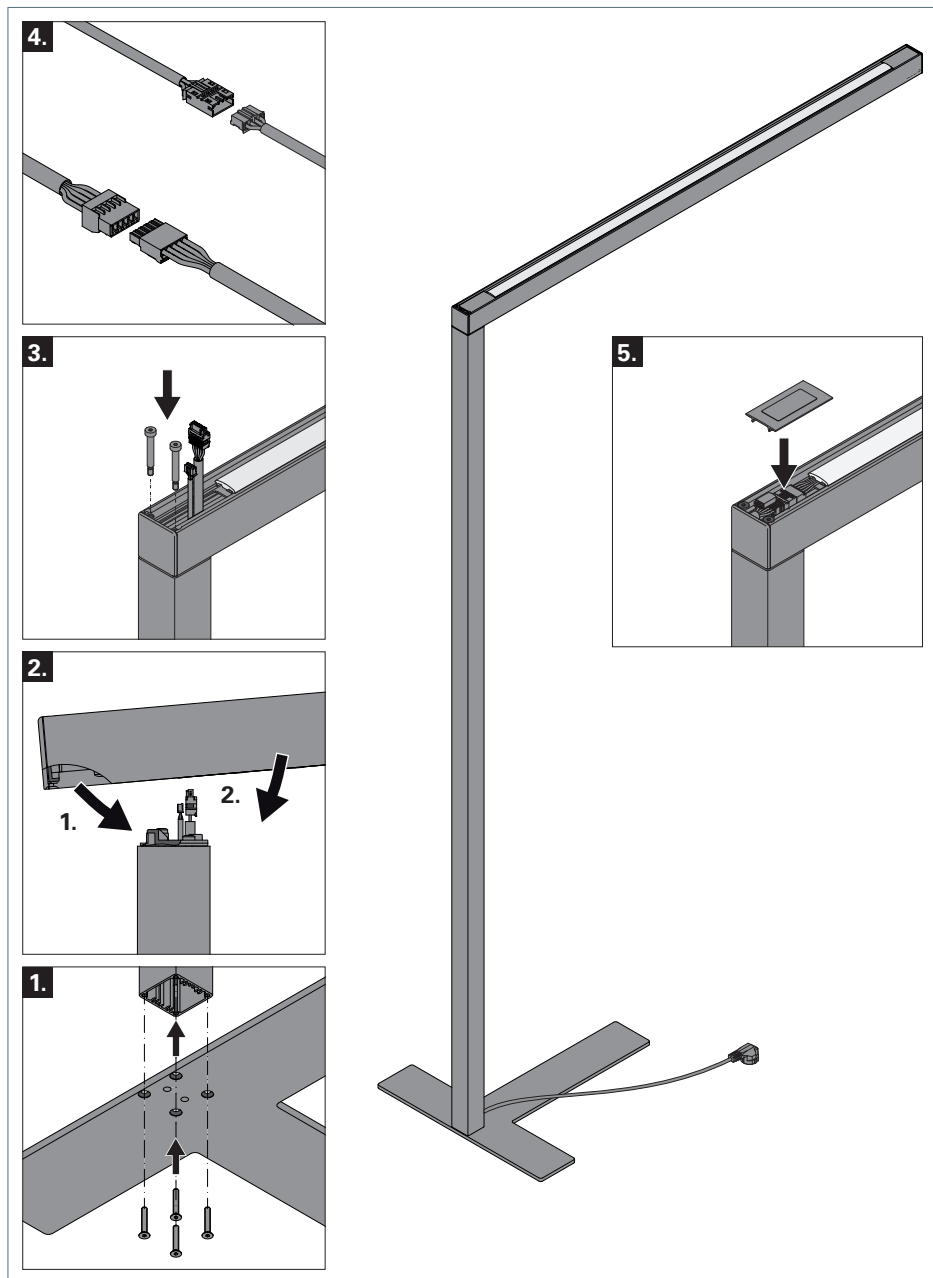

Fig. 1: Assemble STRAIGHT.single STS.
- ▶ Attach the column directly to the luminaire base using the four screws supplied; see Fig. 1, Fig. **1**.
- ▶ Feed the cables through the opening in the luminaire head from below and hang the luminaire head, tilted slightly upwards, into the mounting bracket on the column, see Fig. 1, Fig. **2**.
- ▶ Secure the luminaire head to the column using the two screws. Tighten the screws until the screw heads rest against the luminaire head, see Fig. 1, Fig. **3**.
- ▶ Connect the two plugs to their corresponding sockets, see Fig. 1, Fig. **4**.
- ▶ Snap the cover onto the luminaire head from above, see Fig. 1, Fig. **5**.